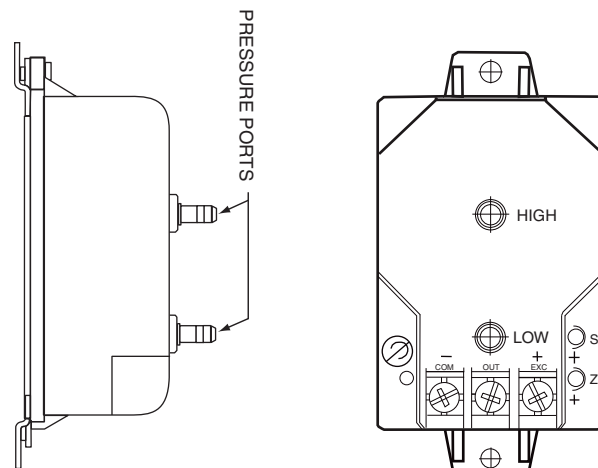

Fig. 53 — Transducer Details
3. Connect a 24-vdc power supply to transducer terminals EXC(+) and COM(-). See Fig. 53.
5. With both pressure ports open to atmosphere, adjust the Zero (Z) screw potentiometer on the transducer and read the multimeter until the desired current output at 0 in. wg pressure is obtained (see Fig. 53).